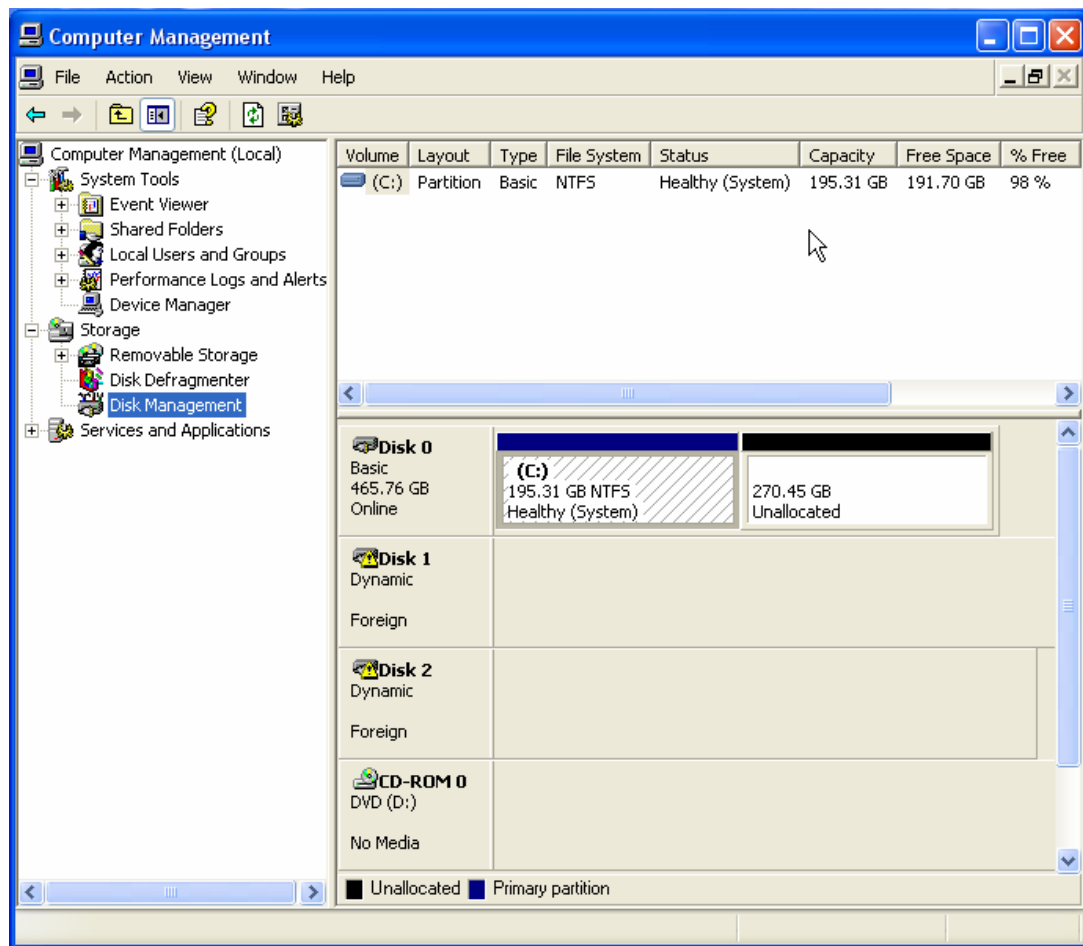

Figure 5-22
- 9) Click the '+' symbol next to the **Storage** item (if this item is in its collapsed state) in the left-hand navigation pane, and then select the **Disk Management** item. You should see three disk drives similar to those shown in Figure 5-22.
Note: MacPac 9200/9210 systems may have one or two removable SATA drives. In the case of a system with both internal drives, Figure 5-22 would display two **Basic** internal drives and two **Foreign** drives.